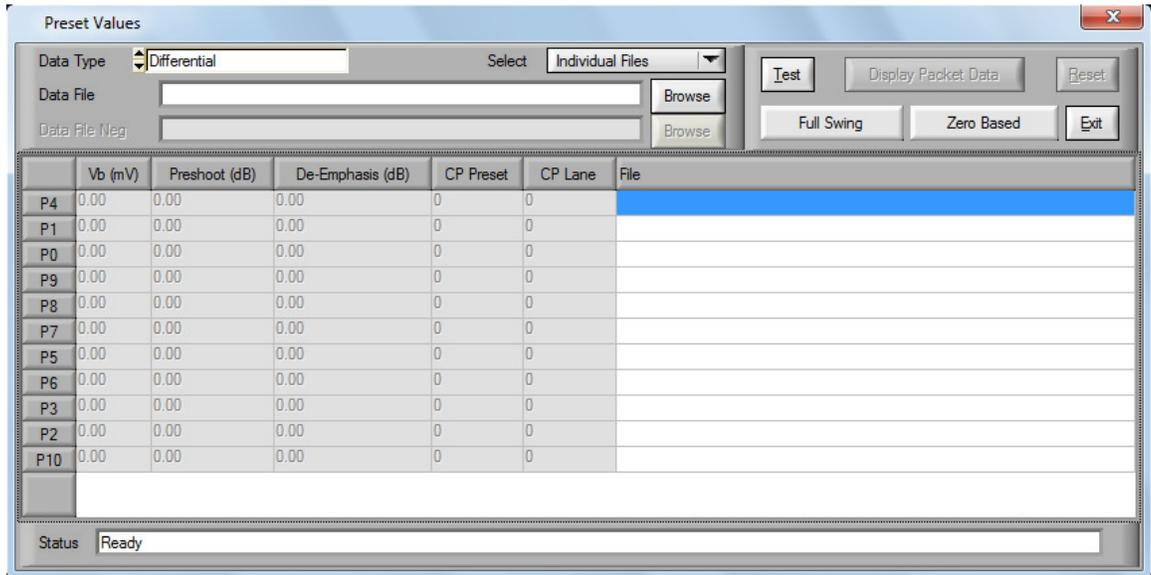

Figure 31. SIGTEST Preset analysis menu
6. Connect the power splitter to the “Fast Edge” output of the scope. Refer to Figure 31.
7. Connect two SMA (male)-SMA (Male) adapters to two outputs of the power splitter. Refer to Figure 31.
8. Connect SMA (Female)-SMP (Male) adapter to the two SMA adapters. Refer to Figure 31.